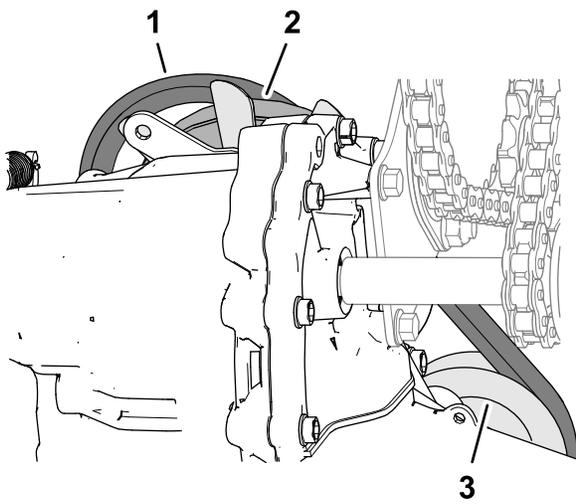

Figure 64
1. Assemble the belt over the transaxle pulley (Figure 64).